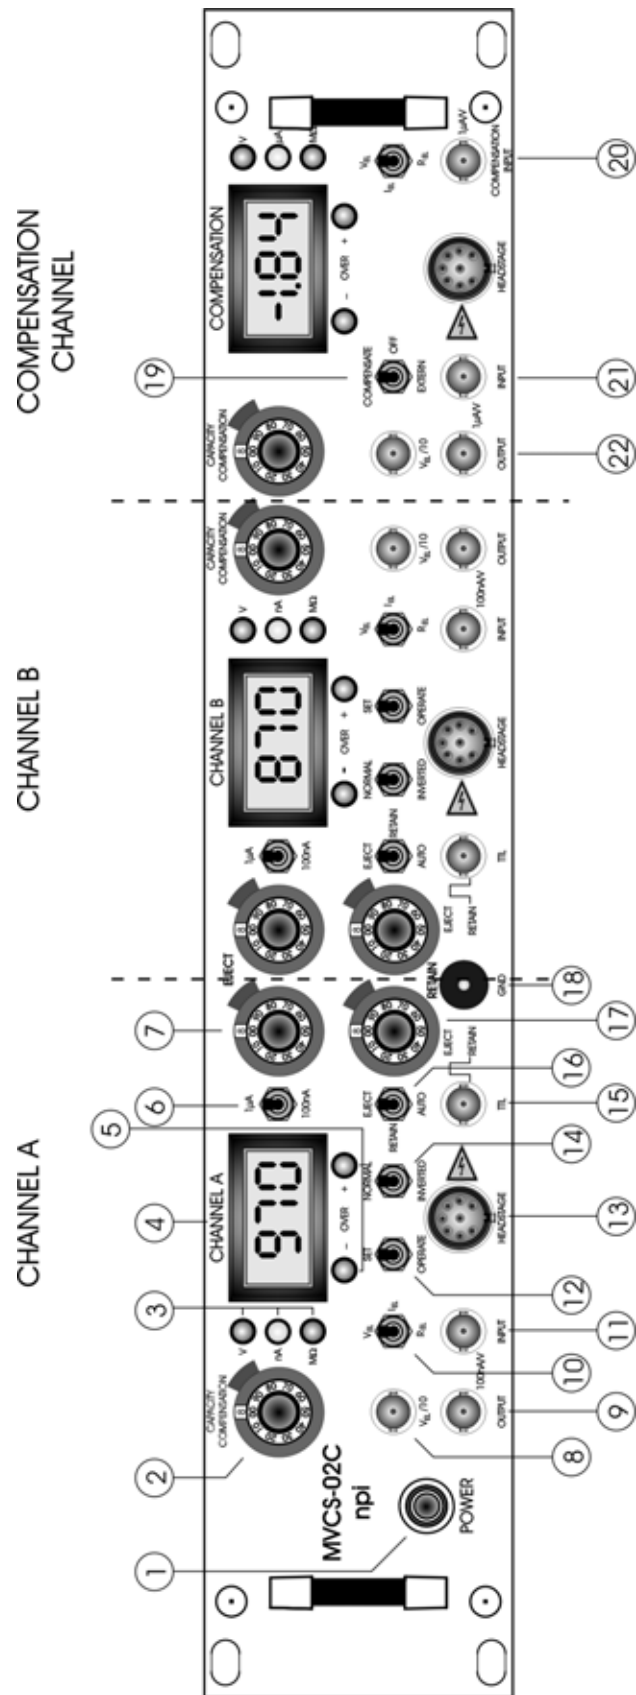

Figure 1: MVCS-C-02C front panel view (the numbers are related to those in the text below)
In the following description of the front panel elements, each element has a number that is related to that in Figure 1. The number is followed by the name (in uppercase letters) written on the front panel and the type of the element (in lowercase letters). Then, a short description of the element is given.
Figure 1 shows the MCVS-C-02C (fast system) with capacity compensation and the automatic electrode resistance test facility. These two features are not present in the MVCS-02C (slow system). In the slow system the CAPACITY COMPENSATION potentiometer is not installed and the function of R_{EL} is somewhat different (see below).
- ☐ MVCS-C: Connect the headstages to the HEADSTAGE connectors (#13, Figure 1) at the front panel.
- ☐ If the recording chamber is not grounded, connect GND of the headstage (MVCS-C) or GND (#18, Figure 1) to the chamber.